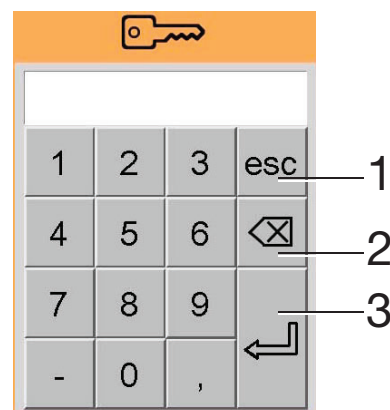

Fig. 4-8 Password input keyboard
- The keyboard for entering the password will be displayed (Fig. 4-8).